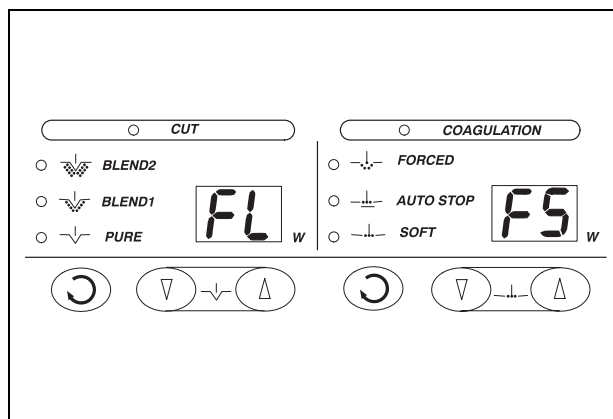

Figure 3.1
- When the electrosurgical unit is turned ON and the foot switch is short-circuited, an alarm will sound and the output setting indicators will display “FL” and “FS” as shown in Figure 3.1. In this case, replace it with a new foot switch.